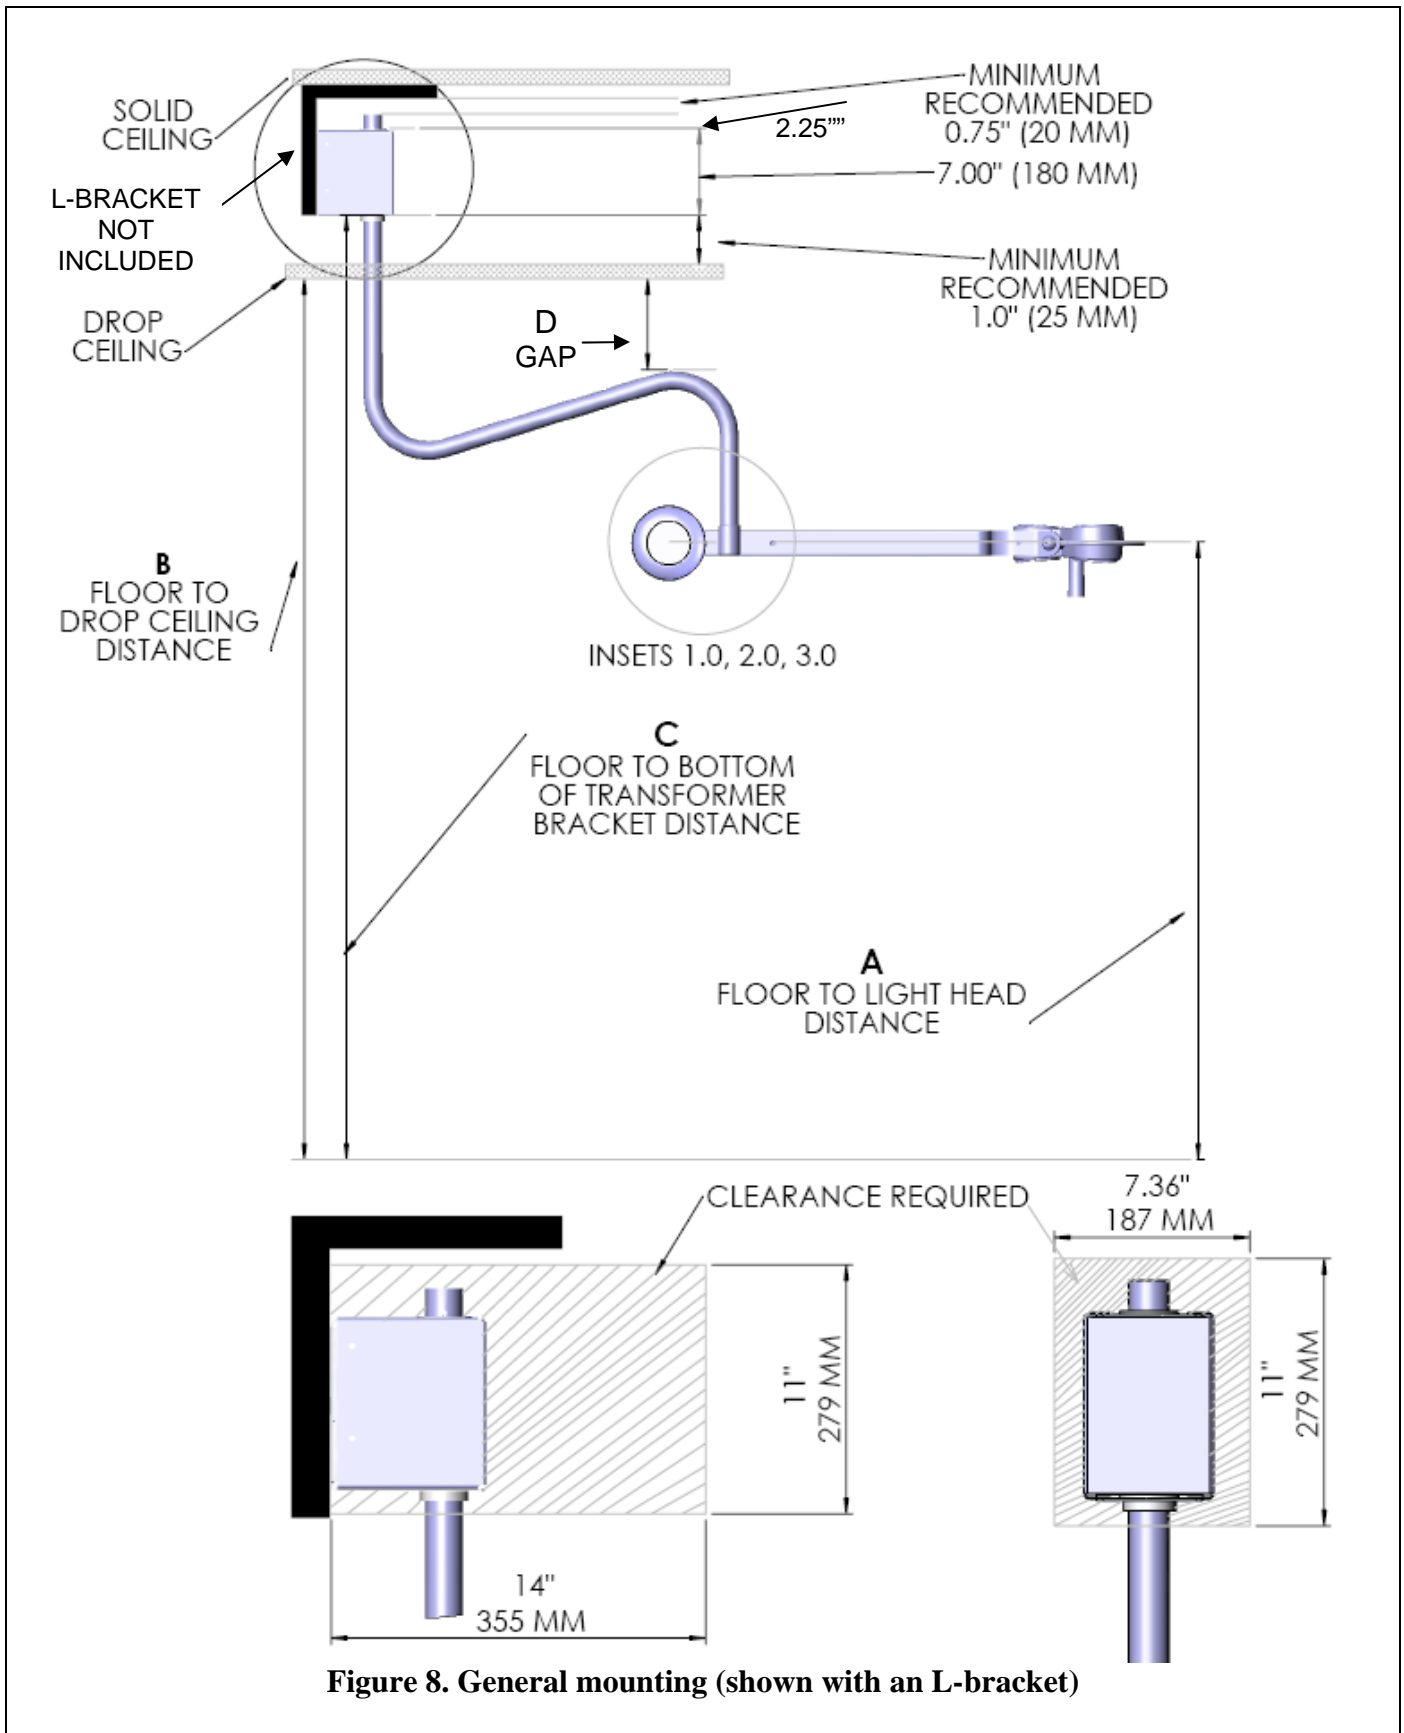

Figure 8. General mounting (shown with an L-bracket)
- ✓ Carefully follow guidelines specified in this manual (refer to figures 8, 9 and 10)
Refer to **Figures 8, 9 & 10** and **Table 1** for mounting heights and appendix A for hole pattern of the transformer housing and optional brackets & plates.
IT MAY BE NECESSARY TO MOUNT THE DUAL BRACKET BELOW THE HARD CEILING AT A CERTAIN DISTANCE TO ACHIEVE PROPER FLOOR TO LIGHT DISTANCE. REFER TO TABLE 1 AND FIGURE 8.
(Refers to Figures 8, 9 & 10)
2. Follow Table 1 and Figures 8, 9 & 10 to determine the location of installation.
3. Fasten the transformer housing to the desired location using four (4) 3/8" or M10 bolts (not provided). The type of bolt will be dependent on your installation. These bolts may need to be either lag or machine bolts. Minimum lag bolt length is 2-1/4" or 60mm. Verify that the transformer housing is level. If not, arm will drift.
4. Position and install transformer housing cover on mounting bracket. Secure with plastic screws (4) provided.
Inset 1.0 (Figure 8)
Inset 2.0 (Figure 8)
Inset 3.0 (Figure 8)